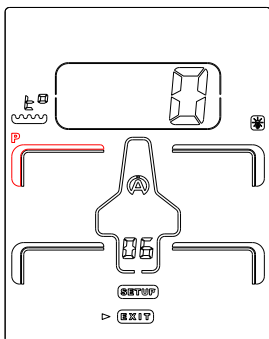

Figure 17
- 2) The first Icon « P » (pressure) on the front left tyre appears by default blinking (figure 17).